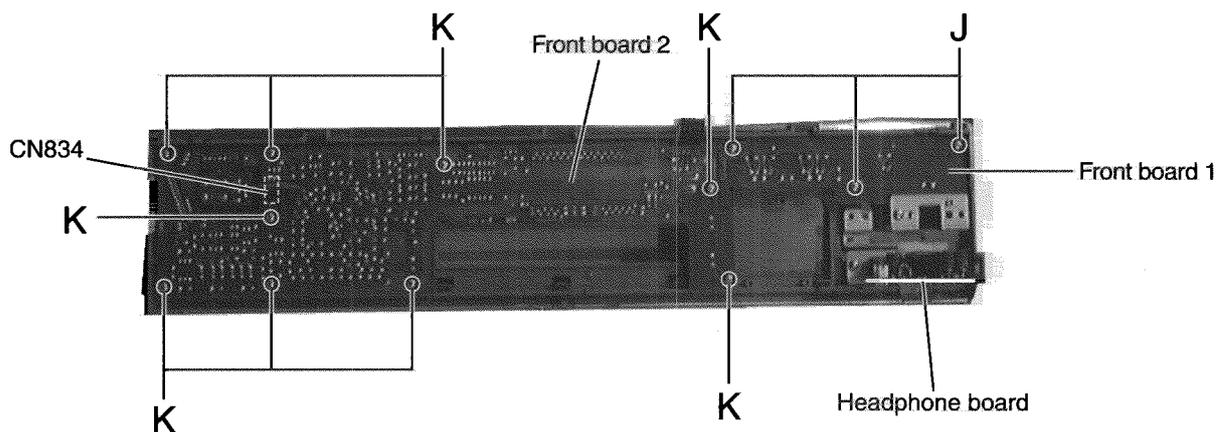

Fig.12
5. Pull out the shuttle knob toward the front, and remove the nut (See Fig.12).